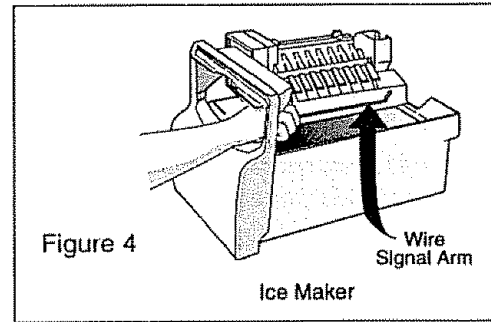

Figure 4
8. To begin ice production, lower the Wire Signal Arm to the "down" or "ON" position. (Figure 4)